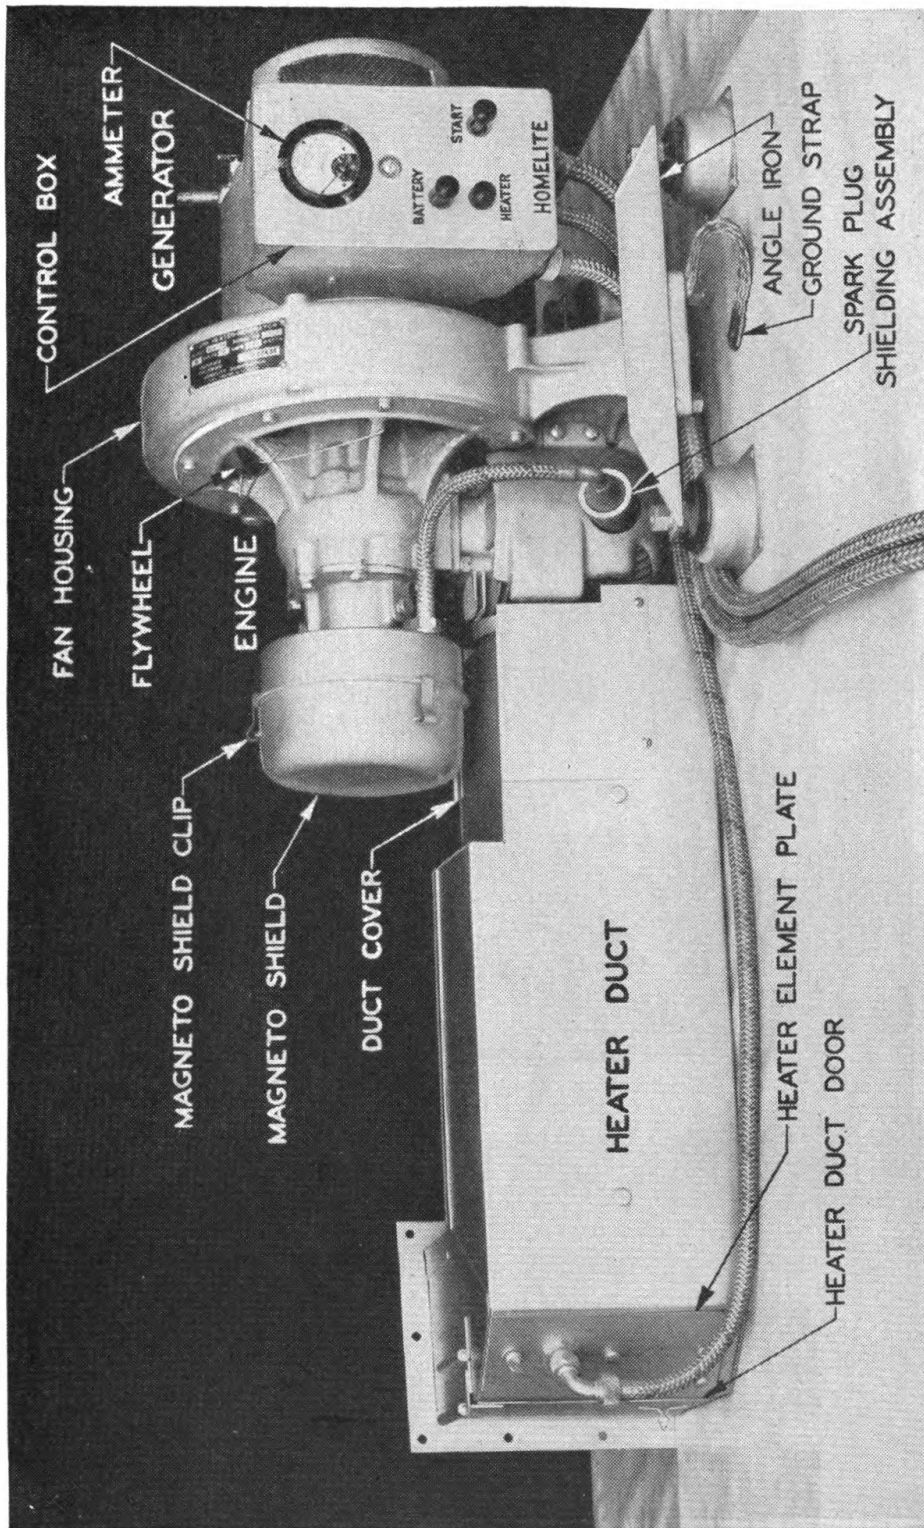
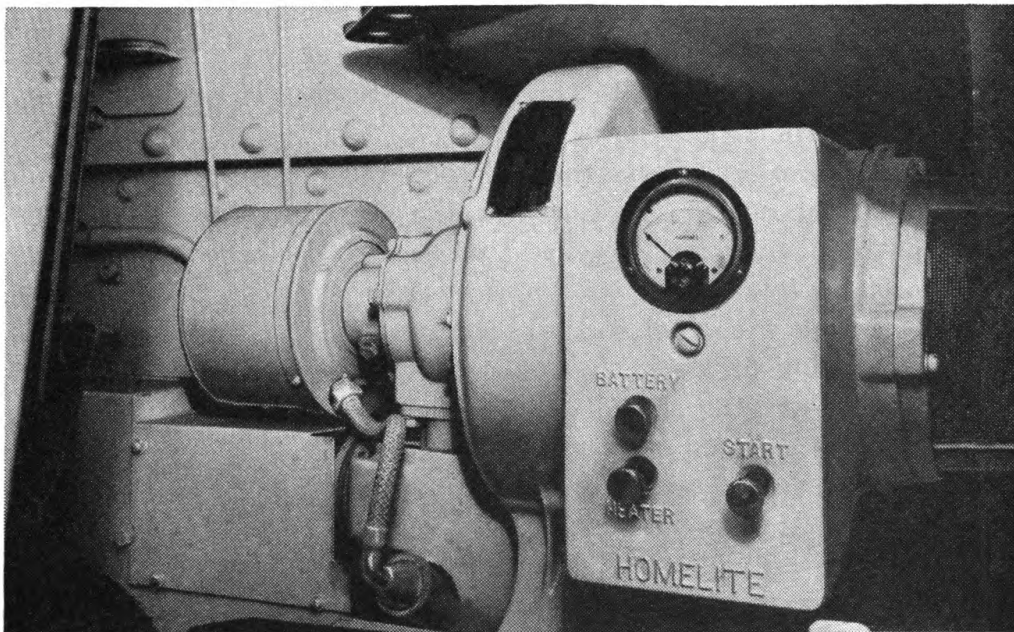

FIGURE 1.—Auxiliary generator model HRH-28—right side.
FIGURE 3.—Auxiliary generator installed in medium tank M3.
**2. Description.**—*a. General.*—The heater-generator model HRH-28 is a self-contained machine designed for supplying 1,500 watts, 30 volts, d-c power for charging the tank batteries, and also for preheating the tank engine in cold weather by means of heat from an electric heater element and heat from the generator engine (figs 1 and 2). In addition, the unit can be utilized for heating the crew compartment. It consists essentially of an electrical generator with controls, directly coupled to, and driven by, a gasoline engine. The unit is mounted in the crew compartment on four shock-absorbing feet, and with a metal heater duct extending from the unit to the tank engine compartment (fig. 3).
*b. Components.*—(1) *Gasoline engine.*—The gasoline engine supplied is a Homelite model HR, 3,400-3,600 rpm, 2-cycle, single-cylinder, air-cooled, inverted type (fig. 1). The engine is started by means of a button on the control box. A starting rope approximately 45 inches long with grip is supplied for emergency manual starting.
(2) *Generator.*—The generator is a Homelite model HR-28, 30-volt, d-c type of 1,500 watts rating, with a control box attached (fig. 1).
(3) *Heater duct.*—The heater duct runs from the generator unit to the engine compartment and contains the generator engine exhaust system and electric heater element (figs. 1 and 2).
(2) Depress the starting button on the control box (fig. 1). Release the button as soon as the engine starts and immediately open the choke partially, easing to full open position as the engine warms up.
*c. Warm weather starting—or warm engine (above 50° F.).—*(1) Depress the starting button on the control box (fig. 1). Release the button as soon as the engine starts.
(2) Do not use the choke unless the engine does not start within 5 seconds. If the engine does not start, use the choke as in instructions in *b* above.
*d. Emergency manual starting.—*If batteries are dead or generator is to be started for testing, it may be started manually. To accomplish this, pry open the three clips holding the shield over the magneto, with a screw driver, and remove the front half (fig. 1). Wind the starting rope counterclockwise on the starting plate which is then exposed. Use the choke as in *b* or *c* above. Pull the rope hard, giving a quick spin to the engine. Repeat if necessary until the engine starts.
**4. Control.—***a. Battery charging.—*Depress the battery button on the control box (fig. 1) if it is not already in as far as it will go. The output of the generator is then utilized to charge the batteries. The charging rate is indicated by the ammeter on the control box. Full rate on discharge batteries is approximately 50 amperes. As the batteries become more fully charged, the charging rate tapers off. With almost fully charged batteries, it is approximately 5 amperes. These figures are general, and assume no load on the batteries.
*b. Cold weather starting of main engine.—*To raise the temperature in the main engine compartment to facilitate cold weather starting, depress the heater button on the control box as far as it will go (fig. 1). This permits the heater element in the forward end of the duct to utilize the full electrical output of the generator. The heat from the generator engine is also directed into the main engine compartment.
*c. Heating crew compartment.*—Follow instructions as in *b* above. Then open the door in the end of the heater duct (fig. 1) by lifting up. Fold this door back along the top of the duct so that the handle fastens in the catch. To reclose the door, unfasten the handle and slide the door down into its normal position.
(1) Pry open the three clips on the shield over the magneto with a screw driver (fig. 1) and take off the front half.
(2) Remove the magneto rotor by loosening the rotor nut which is then exposed. Do not remove the three screws holding the starting plate to rotor.
(3) Remove the spark plug as in preceding instructions (*a* above) to relieve compression, and permit turning the flywheel which is located in the fan housing (fig. 1).
(4) Turn the flywheel slowly in a counterclockwise direction until the breaker lever fiber on the contact assembly rests on the highest
(b) Pry open the 3 clips on the shield over the magneto with a screw driver (fig. 1) and take off front half.